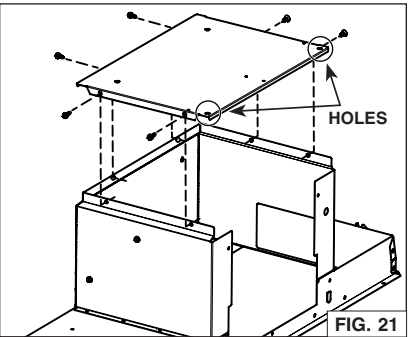

FIG. 21
9. Install the back plate on top of the unit, where the blower support plate was. Orient the holes nearby the corners towards the back of the unit. Assemble to the top of the unit using 6 screws previously removed in step 7 (FIG. 21).